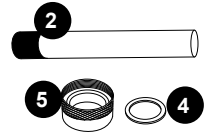

FIGURE 7
5. Remove the quartz seal compression nut (5) by turning it **counterclockwise**, Figure 5. Use a pair of channel-lock pliers if needed, Figure 6. You will notice that there is a stainless-steel compression washer (4) which slides over the quartz tube, save the washer (4) for later use, Figure 7.